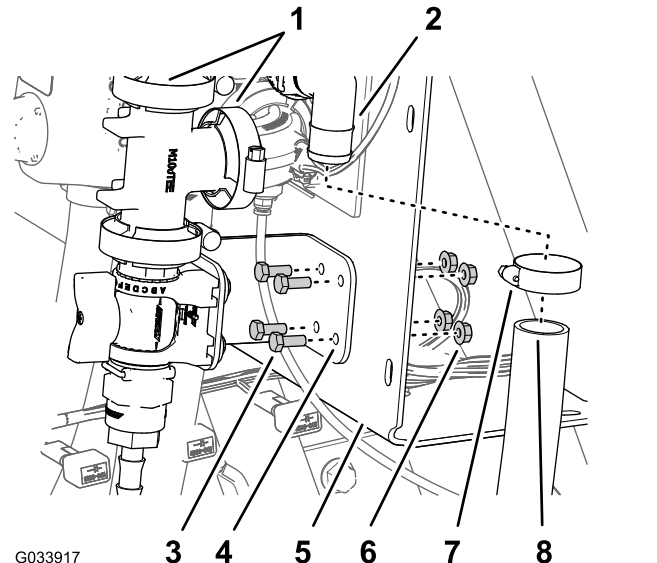

Figure 34
1. Align the flange of the T-fitting with the flange of the 90° fitting with a connector for the sense tube (Figure 34).
2. Loosely assemble the T-fitting and the 90° fitting with a gasket and a flange clamp (Figure 34).
90° fitting with a connector for the sense tube (Figure 31 and Figure 34).